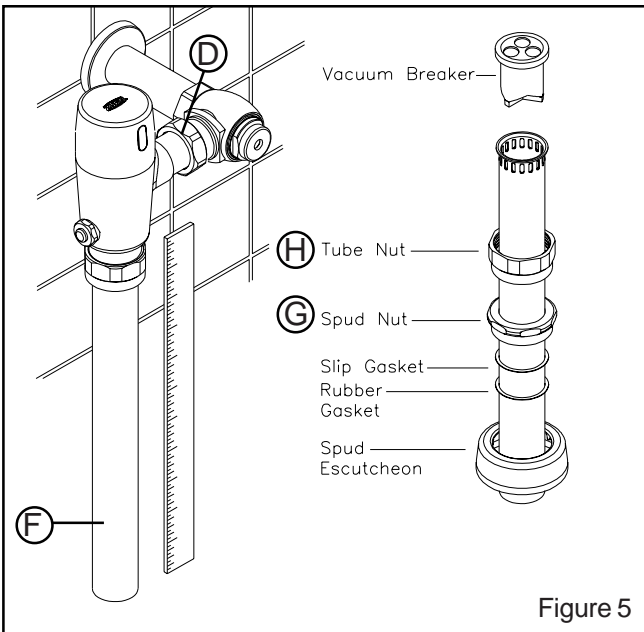

Figure 5
5.) Determine the length of vacuum breaker tube (F) required to join the flush valve and fixture spud. Cut the vacuum breaker tube, if required, to this length. Assemble the vacuum breaker tube assembly and spud nut assembly to the flush valve and fixture spud.
6.) Hand tighten spud nut (G) and vacuum breaker tube nut (H) to fixture and flush valve. Adjust the valve assembly for plumb. Tighten fixture spud nut (G), vacuum breaker tube nut (H) and lock nut (D) with a wrench. **Do not turn water on until batteries are inserted – see 7. See Figure 5**